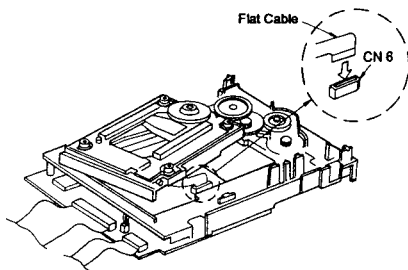

Figure 28
- (9) Connect the flat cable to CN 6 as shown in Figure 28.